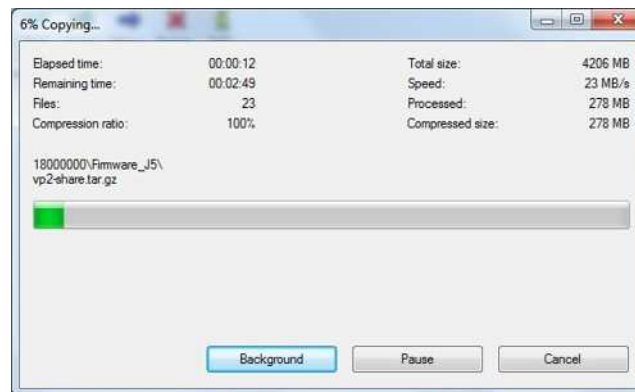

Fig. 5
8. Extract the downloaded file to the USB flash drive (Fig. 5) .